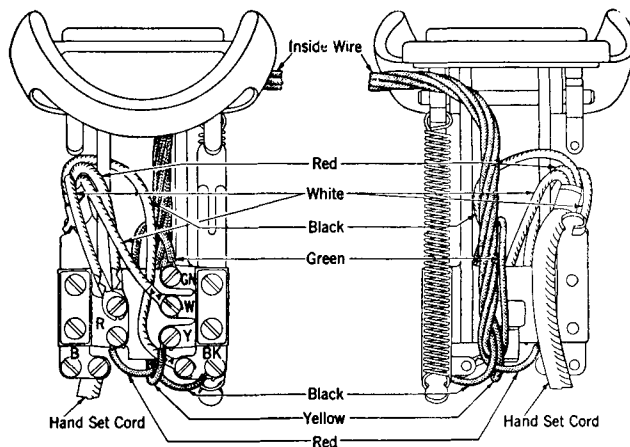

Fig. 1—G1 Type Hand Set Mounting (Manual)
2.01 The G1 Type Hand Set Mounting for manual stations is cored as shown on Fig. 1.